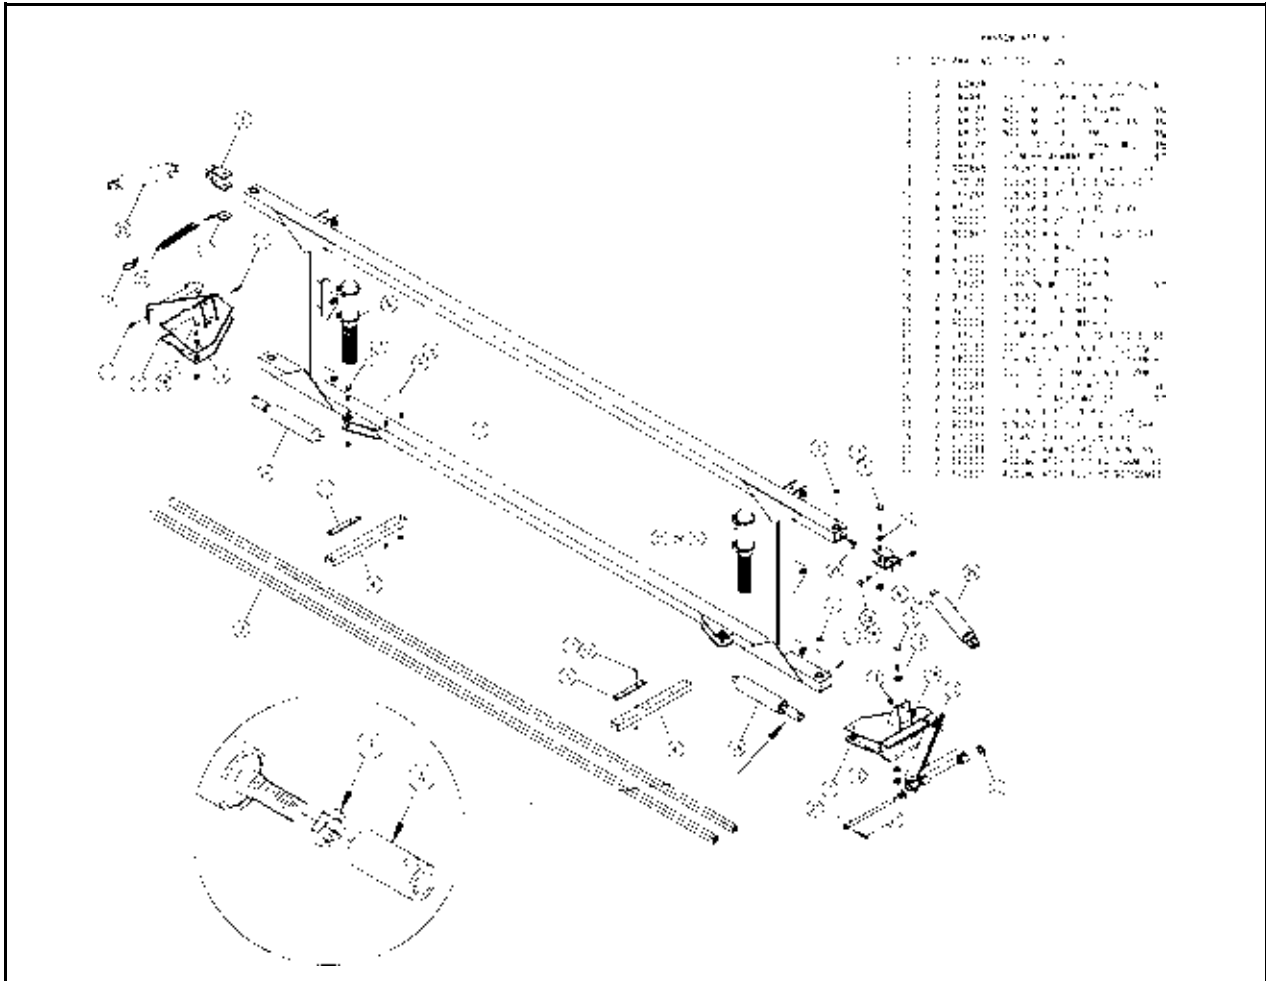

FIG 4.10
5. Install the transom weldment (fig. 4.10, item 17).
8. After the outer booms have been installed, adjust the fold cylinder sleeve (page 27, fig 4.10, item A) until the booms are parallel with the transom. Then use this same adjustment to allow the boom to fold in far enough to locate in the boom cradle. Lock the cylinder sleeve in place with the jam nut (page 27, fig 4.10, item B).